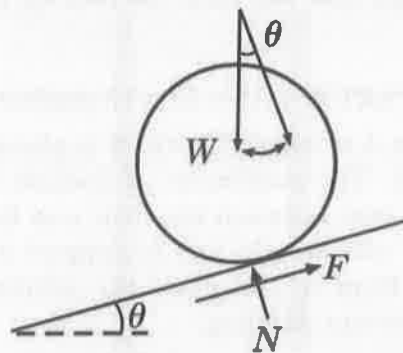

Fig 9
14. (a) The coefficient to rolling resistance of a cylinder on a flat surface is 1.3 mm . At what inclination of the surface, the cylinder of radius $r = 300 \text{ mm}$ will start rolling down as shown in Fig. 9.